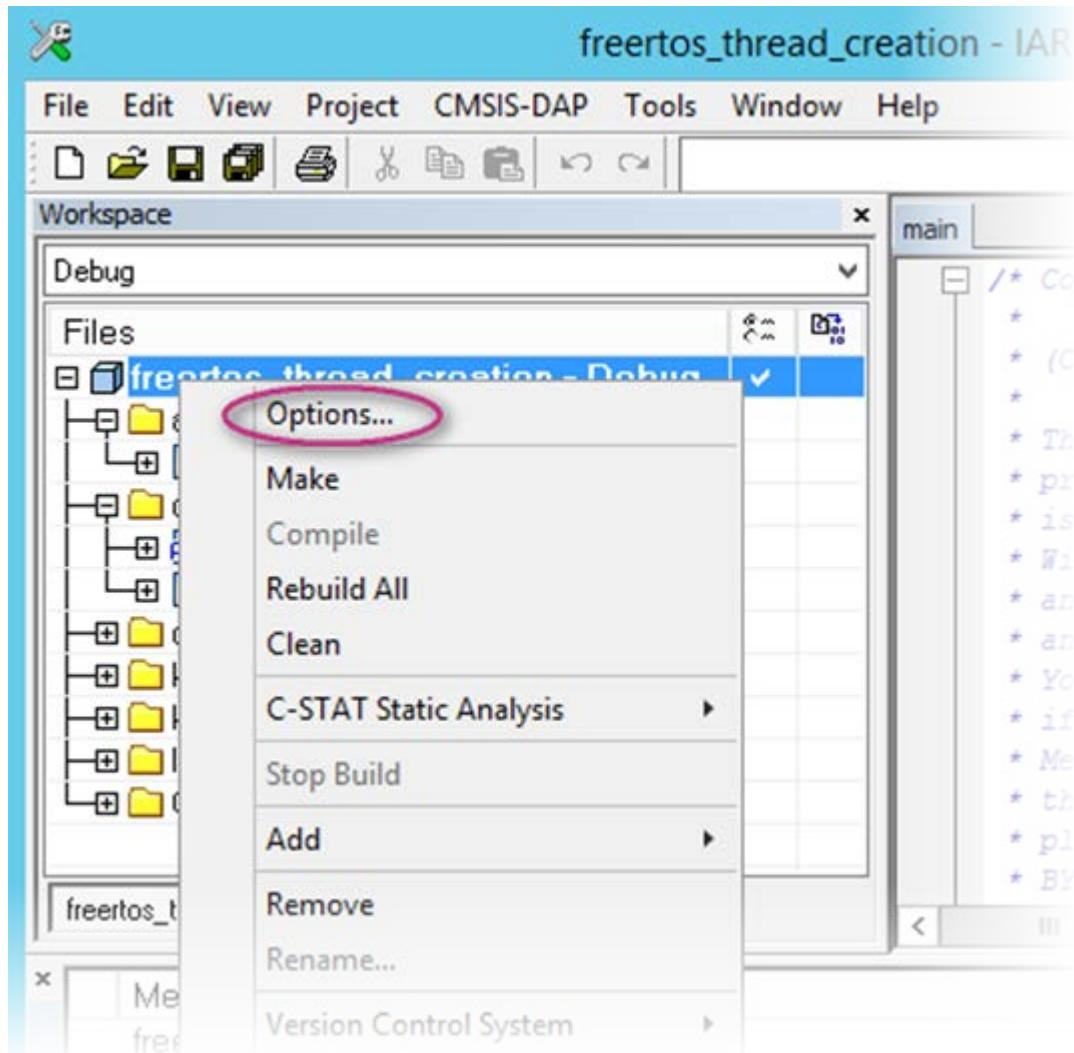

Figure 67. Set download configuration on IAR IDE
- 2) Click **Options** on IAR Embedded Workbench (see Figure 67).